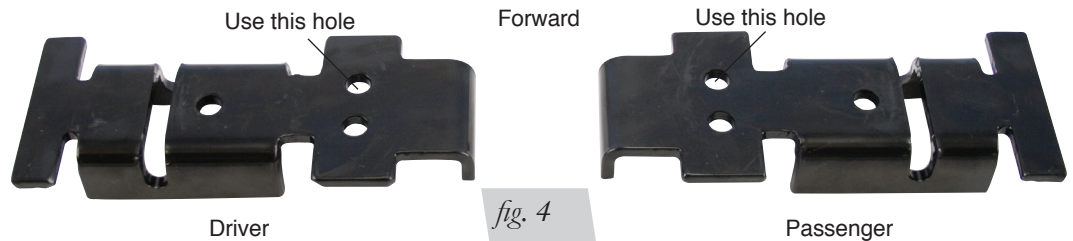

fig. 4
4. LOOSELY install the 3/8" lock washer (N) and 3/8" x 7/8" hex head cap screws (M). Leave loose to allow installation of the upper bracket.
5. Attach the lower bracket (C) to the bottom of the air spring. Use the forward, inboard hole as shown in fig. 4.